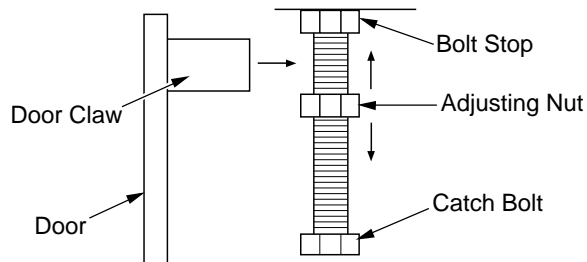

Figure 12 - Catch Bolt and Door Claw Orientation
10. Install door catch bolt (M8 x 1.25-55mm with two M8 hex nuts) into threaded hole on stove body (see Figure 9, page 6). Use an adjustable wrench or a 12mm socket. The catch bolt has two hex nuts attached to it (see Figure 12). The top nut is a bolt stop and the bottom nut is for door leveling adjustment.